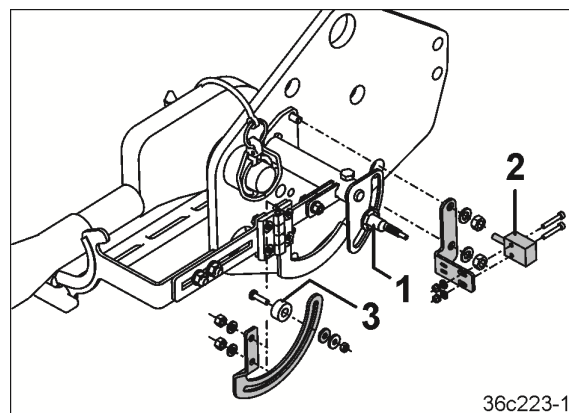

Fig. 51
- Digital working position sensor (Fig. 51/1) for an implement combination with AMADRILL+
- Working position sensor (Fig. 51/2) for seed tube monitoring with adjustment magnet (Fig. 51/3).